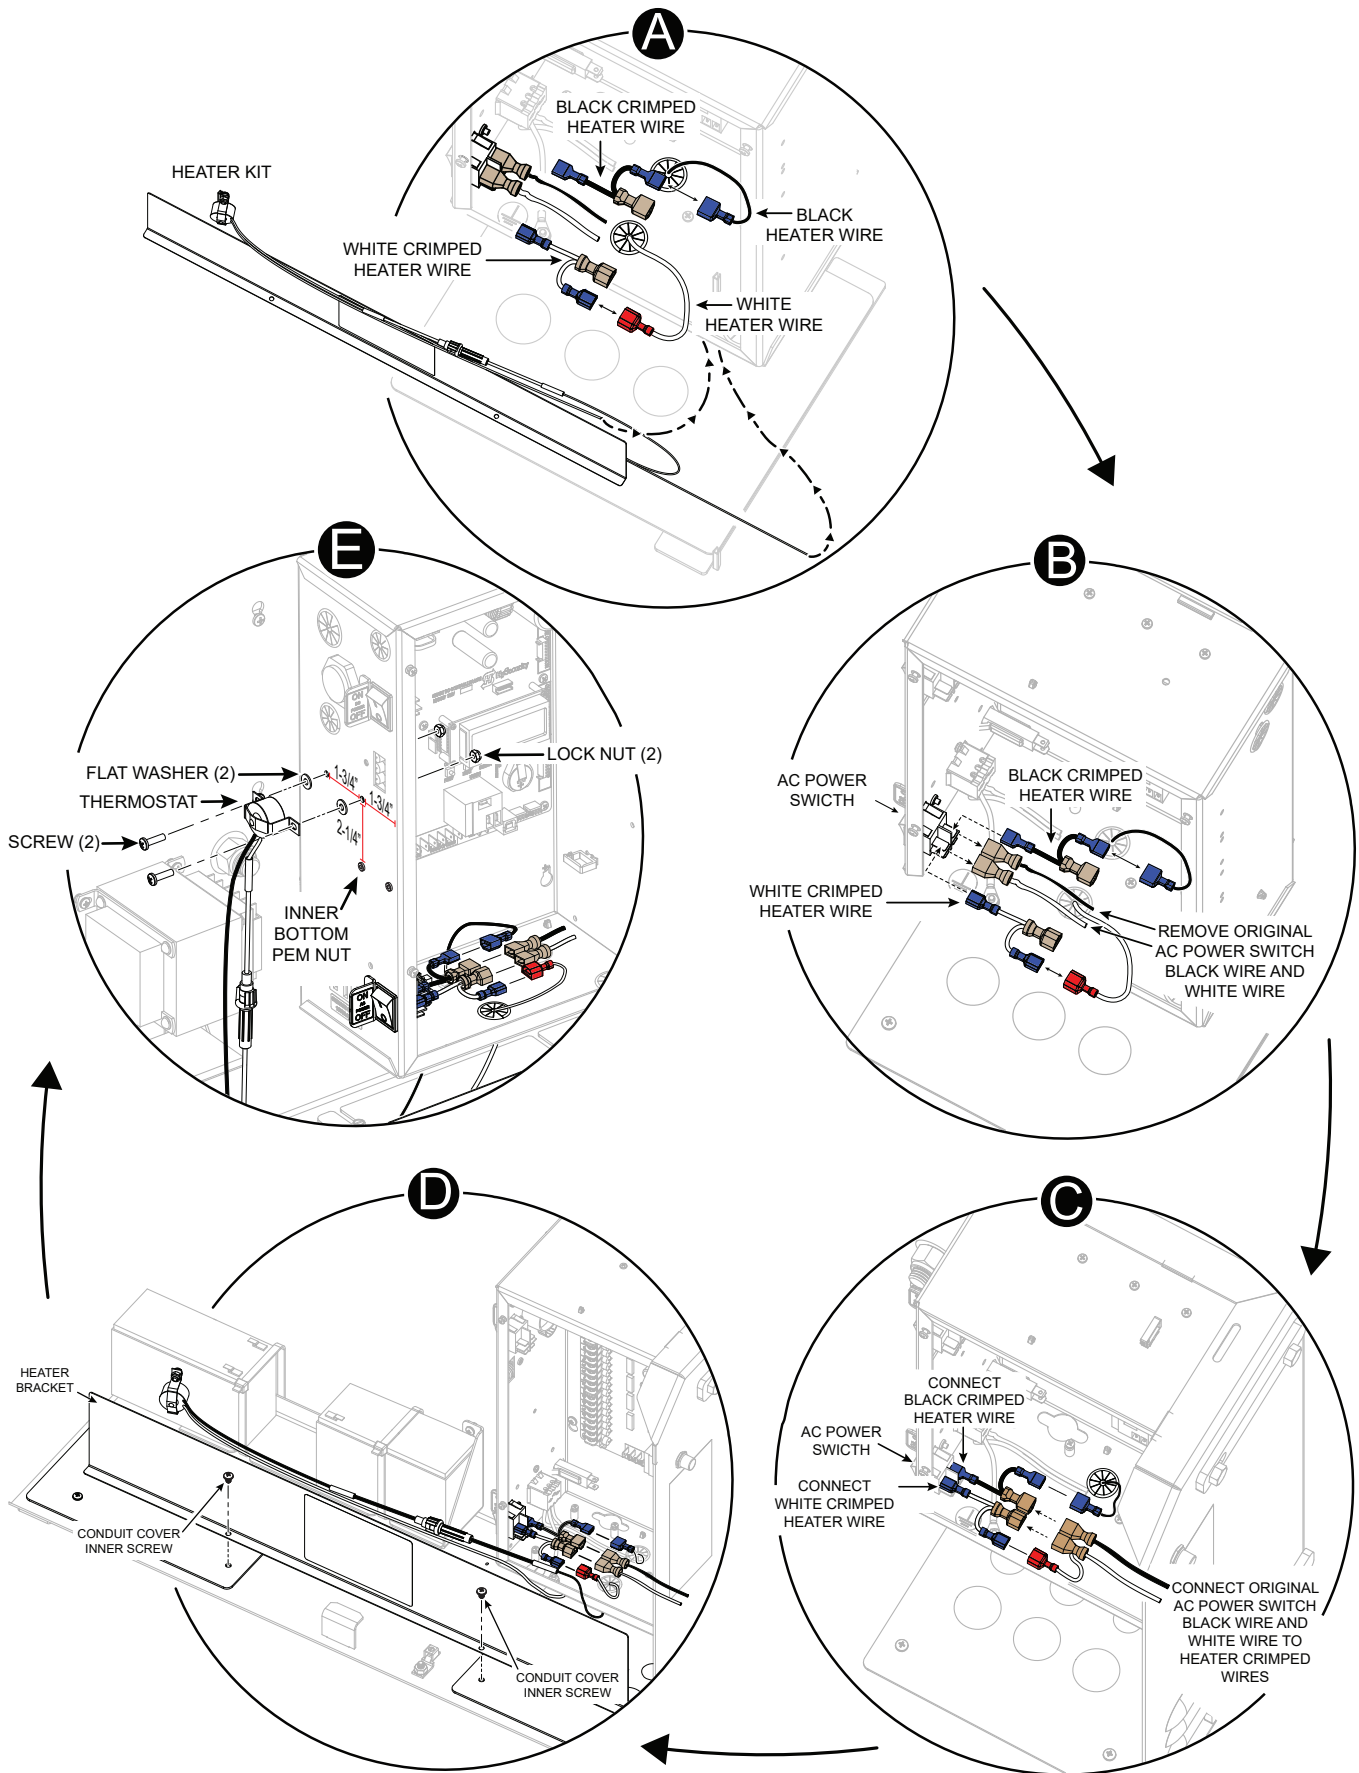

Figure 2. Heater Kit Thermostat Installation
1. Route heater kit white and black wires through two bottom high voltage box split bushings. Connect heater kits wires to same colored crimped wires provided. See **Figure 2, A**.
2. Disconnect and replace original top AC power switch white and black wires with heater white and black wires respectively. See **Figure 2, B**.
3. Connect original AC power switch white and black wires to the same colored heater wire leads. See **Figure 2, C**.
4. Remove the inner forward screw from the left and right conduit covers. See **Figure 2, D**.
5. Align heater bracket mounting holes with left and right conduit cover inner forward screw locations. Secure heater bracket with screws removed in Step 4. See **Figure 2, D**.
6. Position and align thermostat 2-1/4 inches above inner bottom PEM nut, and 1-3/4 inches from the front edge on AC-DC power switch side of voltage box using 6-32 screws (2), flat washers (2), and lock nuts (2). See **Figure 2, E**.
Thermostat mounting locations may not be pre-drilled depending on your operator manufacture date. Self drill mounting locations using the provided dimensions in **Figure 2, E**. Ensure high voltage cover is installed when drilling and clean out all shavings.